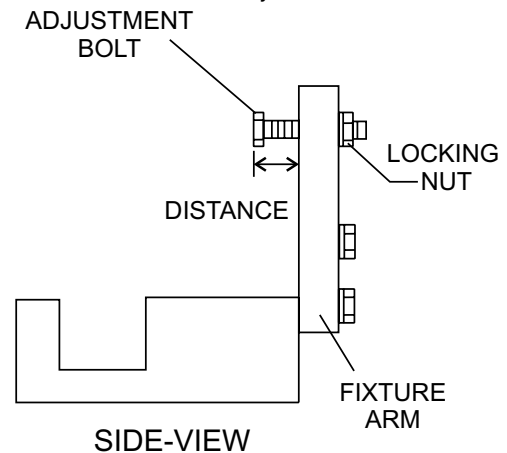

Figure 44. Trowel Arm Adjustment Tool Side View
Shown in Figure 44 is the adjustment fixture with a trowel arm inserted. As each trowel arm is locked into the fixture, the arm bolt is adjusted to where it contacts a stop on the fixture. This will consistently adjust all of the trowel arms, keeping the finisher as flat and evenly pitched as possible.
- Adjust the bolt "distance" shown in Figure 44 to match one of the arms. The other arms will be adjusted to match this distance.